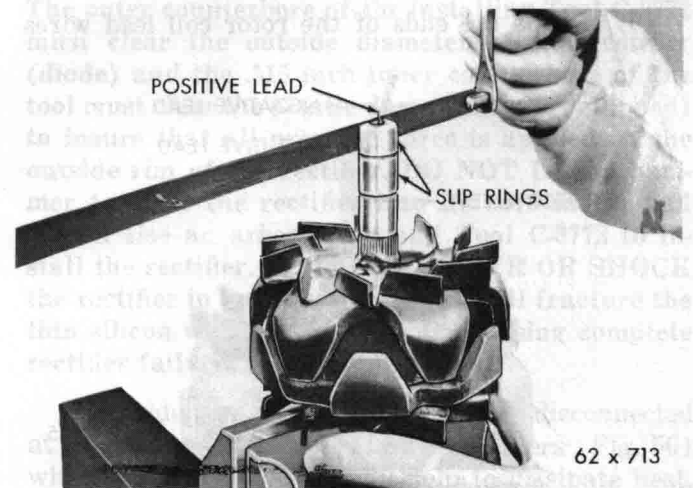
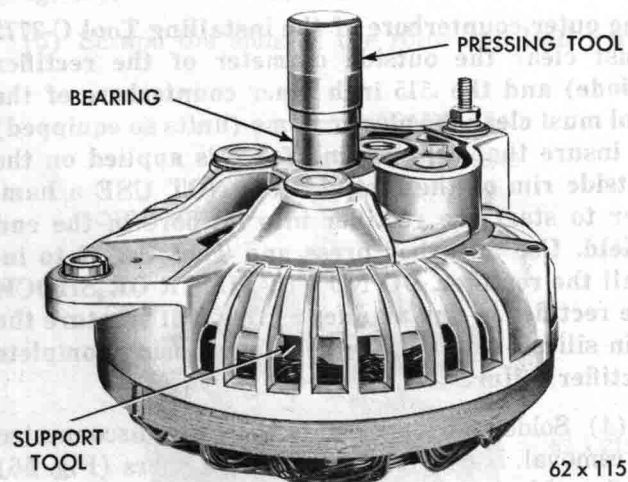
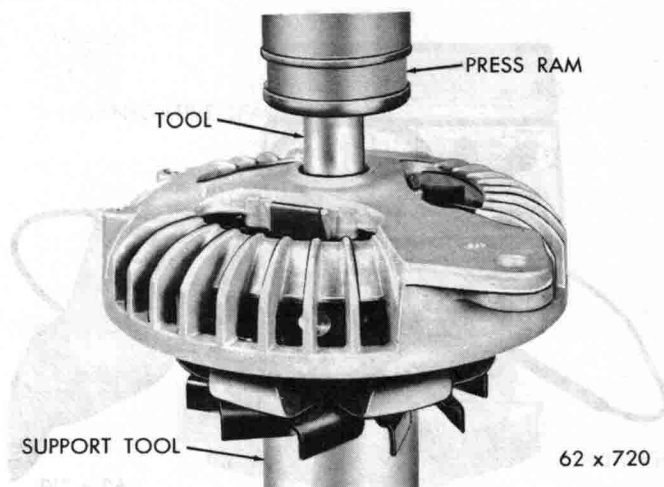

Fig. 48—Cutting Slip Rings for Removal
Fig. 57—Installing Rectifier End Shield Bearing
Fig. 58—Installing Drive End Shield and Bearing
(2) Cut both slip rings and insulation with a hack saw (Fig. 48).
(5) Support the end shield on Tool SP-3383 so that the notch in support tool will clear the raised section of the heat sink and press the bearing into position with Tool SP-3381 (Fig. 57).
(6) Insert the drive end bearing in the drive end shield with the shielded side of the bearing toward the rotor and install the bearing retainer plate to hold the bearing in place.
(7) Position the bearing and drive end shield on the rotor shaft.
(8) Support the rotor in a manner that the pressing force will be against the underside of the rotor (Fig. 58). (A heavy commercial type pipe 2 inches outside diameter, 1½ inches inside diameter and three inches long, notched out to clear the rotor lead wires.) Press the bearing and shield into position on the rotor shaft with an arbor press and Tool C-3769 (Fig. 48).
(9) Snap the bearing retainer in the notches provided in the end shield.